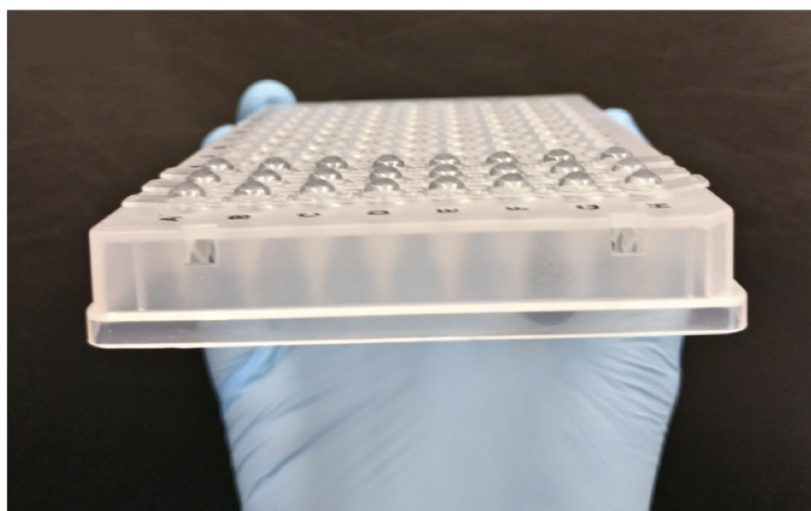

Figure 7
- 7 Repeat steps 3-7 for each of the other columns filled with samples (Fig. 7).